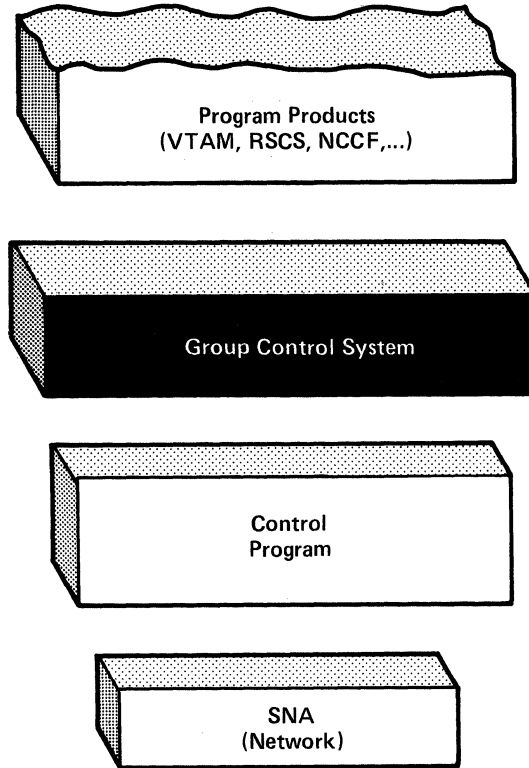

Figure 1. Group Control System (GCS), an Interface between Program Products and CP
- An interface between program products, like Virtual Telecommunications Access Methods (VTAM) and Remote Spooling Communications Subsystem (RSCS) and CP, the system's Control Program (Figure 1).